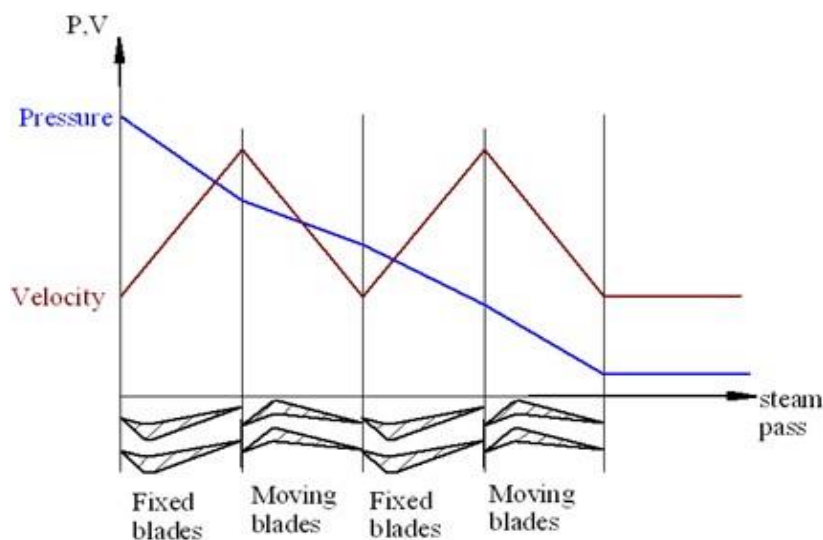

Fig. 4.2 Impulse reaction turbine
**4.2.2 Impulse Reaction Steam Turbine:** In the impulse reaction turbine, power is generated by the combination of impulse action and reaction by expanding the steam in both fixed blades (act as nozzles) and moving blades as shown in figure 4.2. Here the pressure of the steam drops partially in fixed blades and partially in moving blades. Steam enters the fixed row of blades, undergoes a small drop in pressure and increases in velocity. Then steam enters the moving row of blades, undergoes a change in direction and momentum (impulse action), and a small drop in pressure too (reaction), giving rise to increase in kinetic energy. Hence, such a turbine is termed as impulse reaction turbine. Examples: Parson, Ljungstrom etc.